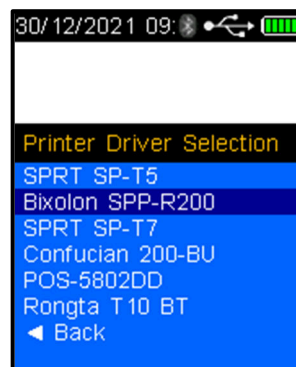

Figure 43 - Printer Selected
- Press the down button and scroll down to the printer brand and type, e.g. Bixolon SPP-R200 and press the test key to select (Refer to Figure 43).